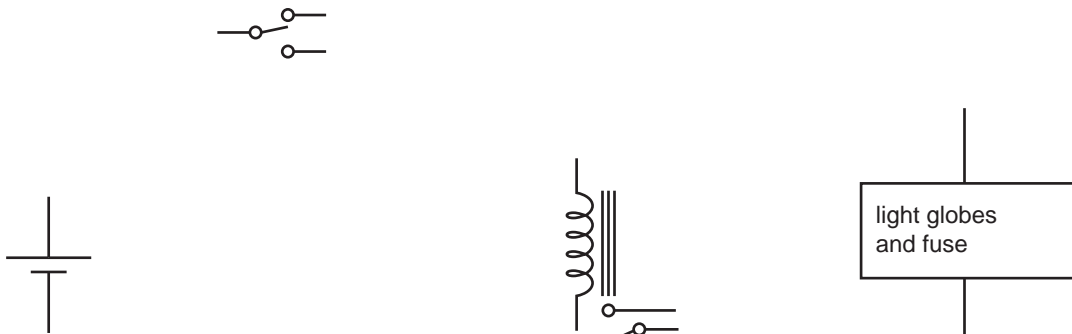

Figure 9
b. Complete the circuit diagram (Figure 9 below) to show how the relay can be used to switch the lights on or off, given that the switch controls the relay. (Assume that the light globes and fuse are in the box, as shown.)